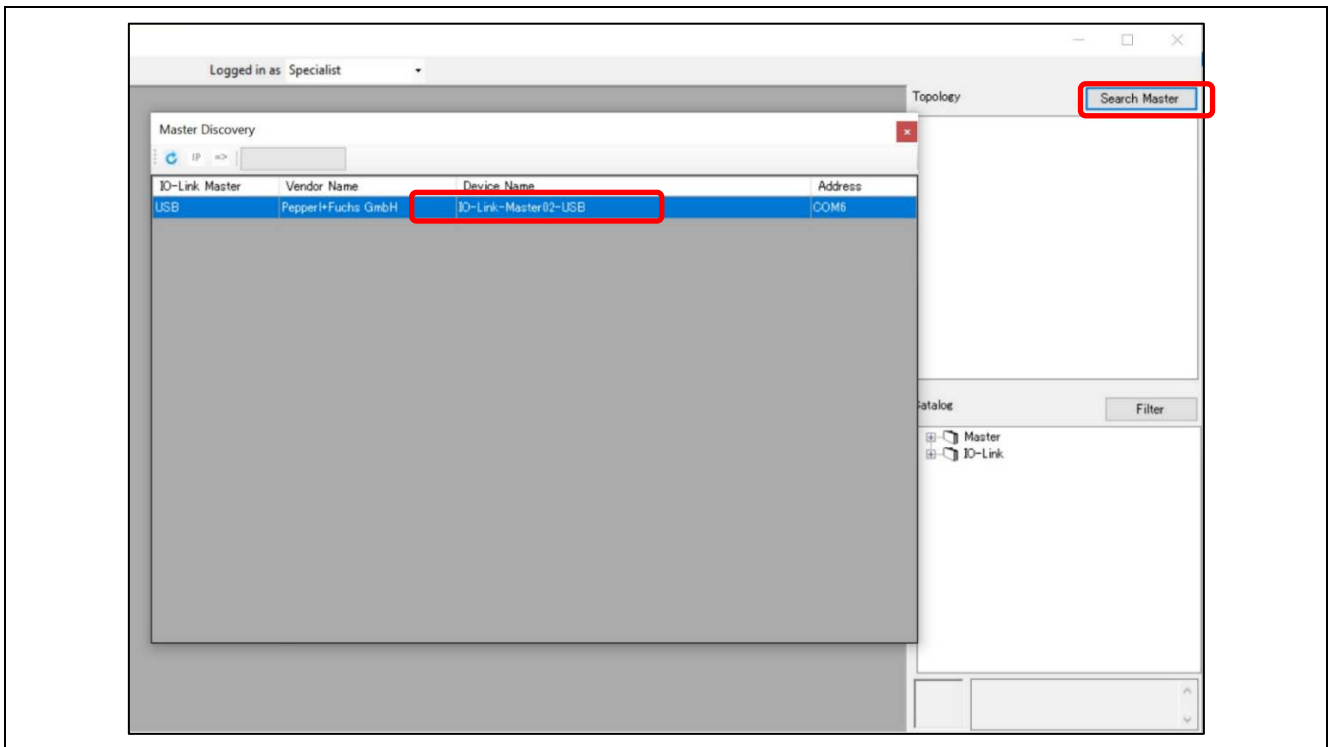

Figure 38. IO-Link Device Tool V5.1 – PE (Search for IO-Link Master)
1. Click the **Search Master** button in the upper right corner of the window. **“IO-Link-Master02-USB”** will appear in the **Master Discovery** window as shown in Figure 38.